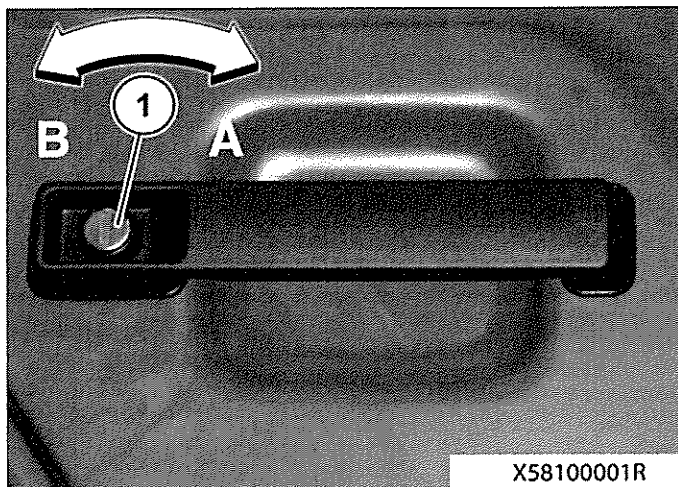

Fig 1 Operating the door (outside)
- 2 Refer to Fig 1. To unlock and open the door, proceed as follows:
- 2.1 Insert the key into the lock (1), then turn the key in direction A to unlock the door.